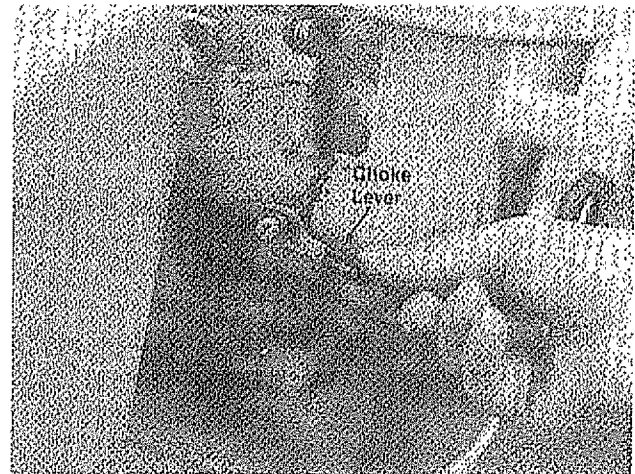

FIGURE 43.
- Push the throttle control all the way forward to the START position. See figure 20. The choke should be closed. See figure 43.